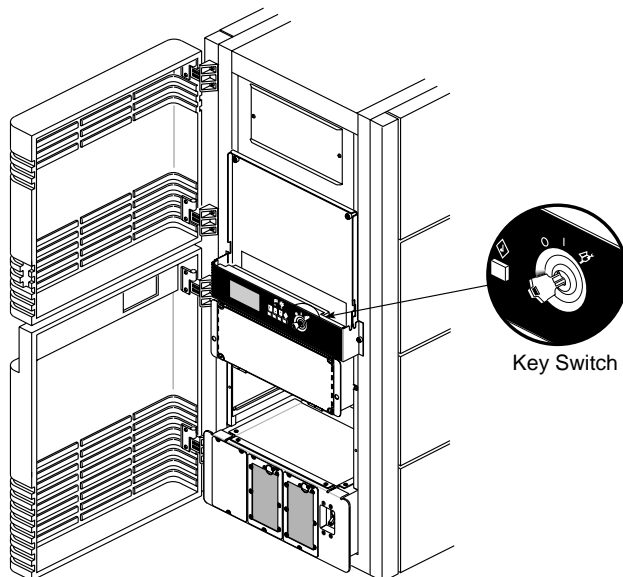

Figure 3-6 System Controller Key Switch
3. Insert the key into the key switch, located to the right of the System Controller's display (see Figure 3-6).